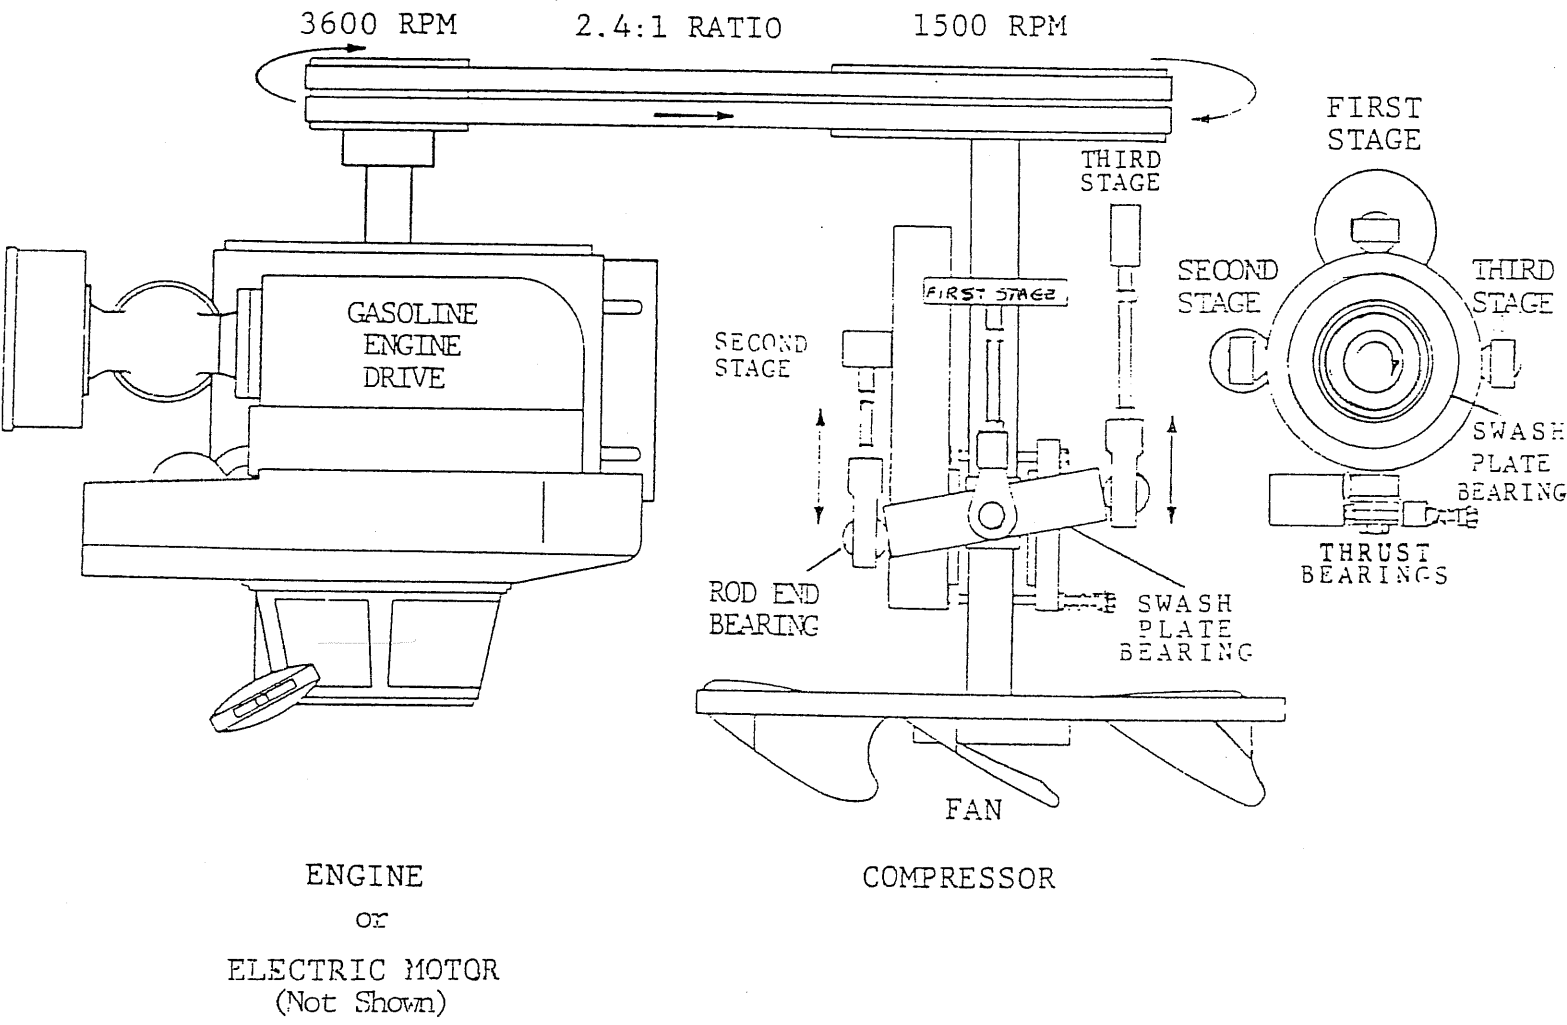

Figure 3-1 Mechanical Drive Schematic
3.2 MECHANICAL (See Figure 3-1)